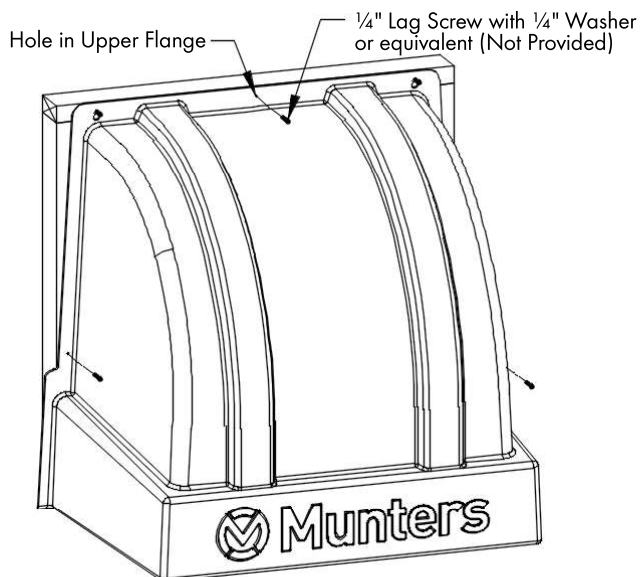

Figure 7
While the Weather Hood is hanging on the screws, secure it to the framing with (3) ¼" lag screws with ¼" washers or equivalent (not provided) in the center hole in upper flange and the hole in each side flange. *See Figure 7.*